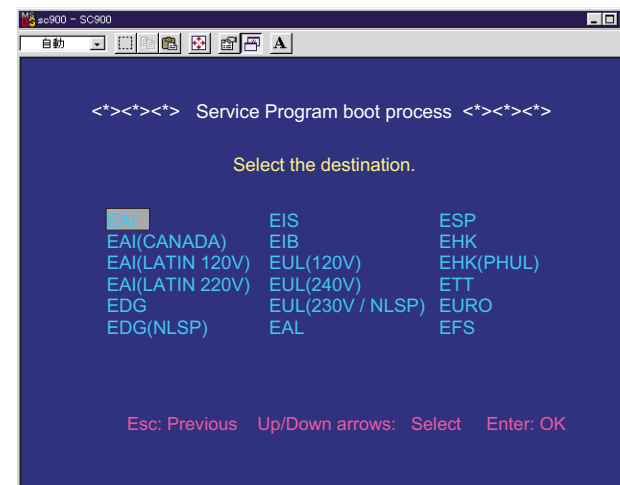

Figure 5-2. Destination Selection Screen
7. From the option in screen (Figure 5-2), select the destination which applies to the model on which you are making adjustments, then press Enter.